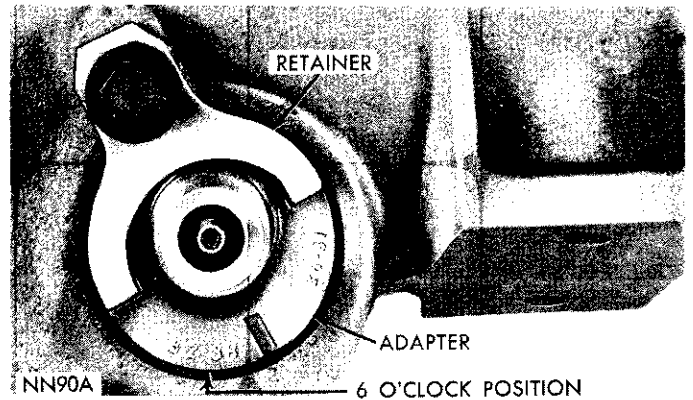
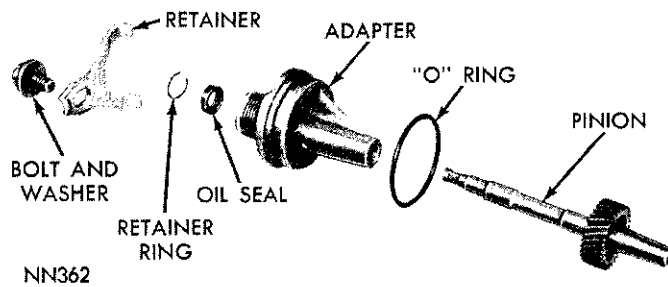
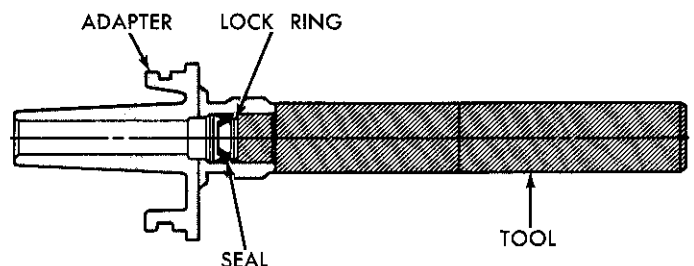

Fig. 40—Speedometer Pinion and Adapter—Installed in Extension Housing
Fig. 41—Speedometer Pinion and Adapter—Disassembled
Fig. 42—Installing Speedometer Pinion Seal in Adapter
(39) Install speedometer drive pinion gear and adapter being sure range number, stamped on outside of adapter, representing number of teeth on gear, is in 6 “O” clock position (Fig. 40).
(1) Place drain pan under adapter or drain transmission.
(2) Remove bolt and retainer securing speedometer pinion adapter to extension housing (Fig. 40).
(3) With cable housing connected, carefully work adapter and pinion out of extension housing.
(4) If transmission fluid is found in cable housing, replace seal in the adapter (Fig. 41). Start seal and retainer ring in adapter, then push them into adapter with Tool C-4004 until tool bottoms (Fig. 42).
(5) Note number of gear teeth and install speedometer pinion gear into adapter (Fig. 41).
(6) Rotate the speedometer pinion gear and adapter assembly so that the number on the adapter, corresponding to the number of teeth on the gear, is in the 6 o'clock position as the assembly is installed (Fig. 40).
(7) Install retainer and bolt, with retainer tangs in adapter positioning slots. Tap adapter firmly into extension housing and tighten retainer bolt to 100 inch-pounds.
(8) Fill transmission to level of fill plug (Refer to Lubrication Section).